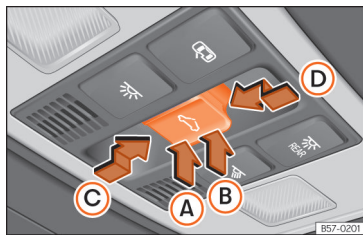

Fig. 81 On the interior roof lining: sunroof button.
The Fig. 81 button has two levels. The first level switches the sunroof to the tilted position, opening or closing it fully or partially.
- Within approximately 5 seconds of having activated the roll-back function, press the **<<< >>> Fig. 81** button to the second level in the direction of arrow **(D)** until the sunroof closes completely.